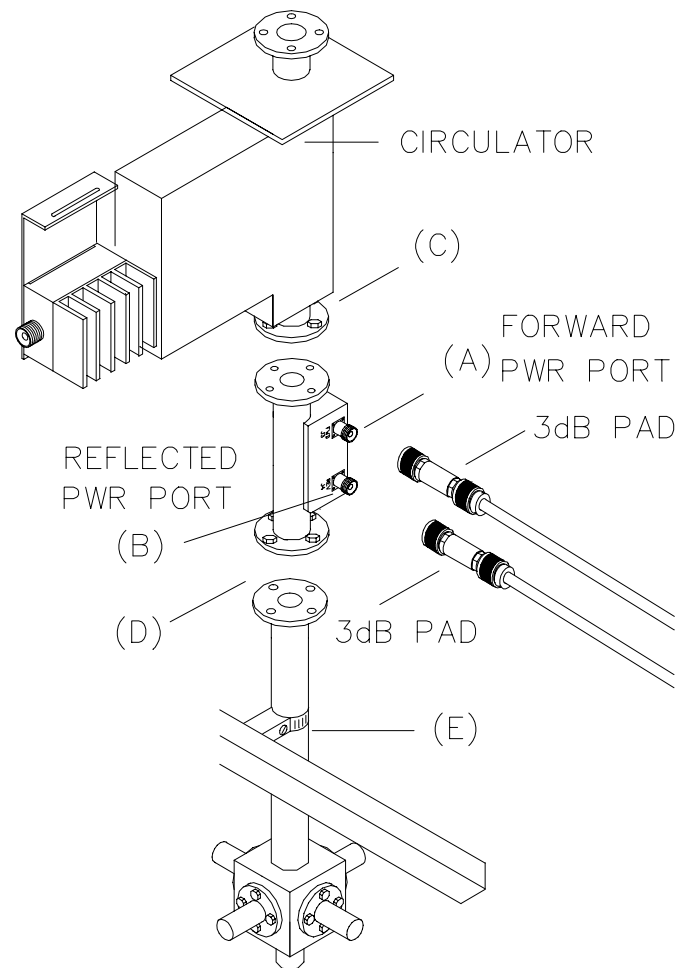

Figure 5-13 Directional Coupler Replacement
7. Unscrew the type "N" connectors from the forward and reflected power ports on the Directional Coupler points (A) & (B) in [Figure 5-13] and remove the 3-dB pads.
8. Remove the four bolts that fasten the bottom of the Circulator to the Directional Coupler point (C) in [Figure 5-13].
10. Remove the four bolts that fasten the Directional Coupler to the 5-Way Power Divider point (D) in [Figure 5-13].
12. Align the axis of the new Directional Coupler with the center conductor of the 5-Way Power Divider point (D) of [Figure 5-13] and lower the Directional Coupler straight down so that the center conductor of the 5-Way Power Divider fits inside the Directional Coupler. Rotate the Directional Coupler flange so that the hole in the Directional Coupler flange aligns with the pin on the 5-Way Power Divider flange.
14. Align port 2 of the Circulator point (C) of [Figure 5-13] with the center conductor of the Directional Coupler, and lower the Circulator straight down so that the center conductor is inside the Circulator. Rotate the Circulator flange so that the hole in the flange aligns with the pin on the Directional Coupler flange.